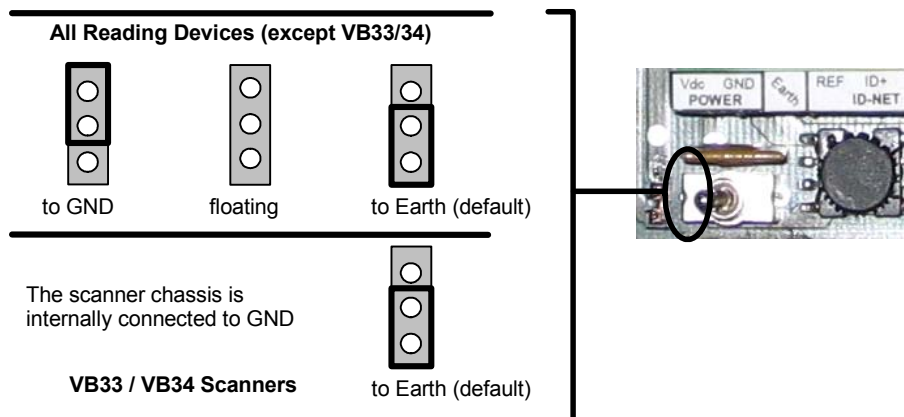

Figure 8 – Chassis Grounding
- Connect the reading device chassis to earth ground through the jumper, (default setting, see Figure 8).
The reading device chassis grounding method can be selected by positioning a jumper (see Figure 8). In this way the reading device chassis can be connected to earth ground (only if pin Earth is connected to a good earth ground). For all reading devices except VB33 and VB34 series, the chassis can alternatively be connected to the power supply ground signal (GND) or it can be left floating but, in this case, the jumper must be removed. For VB33 and VB34 scanners the chassis is internally connected to GND.